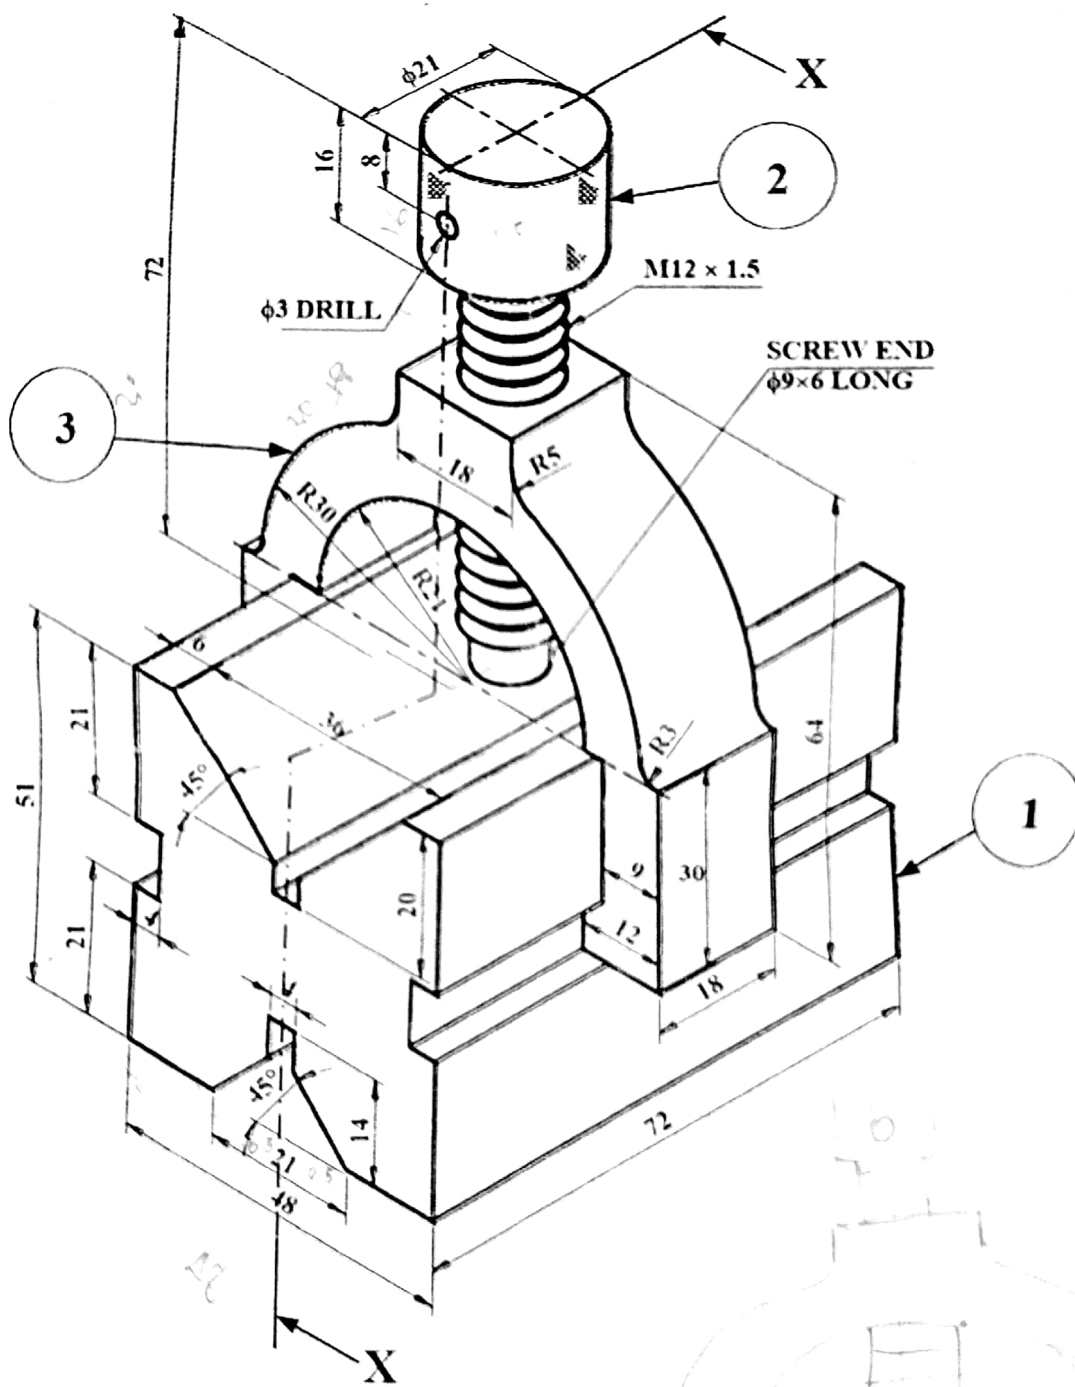

Figure 1 V-Block Assembly
**Q1.** Figure 1 shows the isometric drawing of a v-block assembly. The assembly consists of V-Block (1), Clamping Screw (2) and Yoke (3). The assembled unit is symmetrical about the vertical and the profile planes. Draw full size, in first angle projection the following views of the assembly: